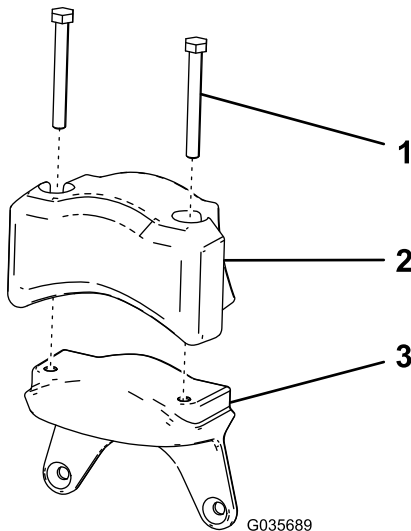

Figure 8
1. Assemble the electric counterweight and 2 cap screws (5/16 x 2-3/4 inches) that you removed in Removing the Electric Motor Counterweight (page 3) to the new weight (Figure 8).